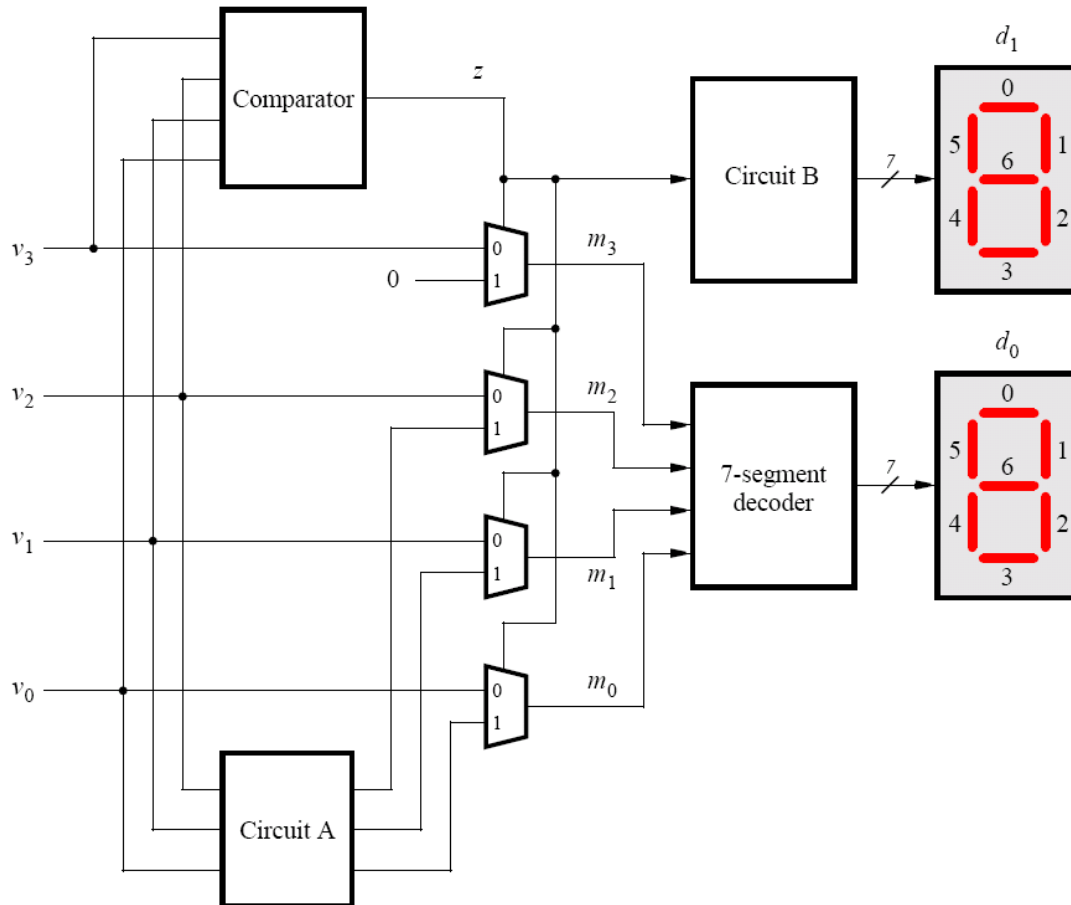

Figure 3 - Partial block scheme of the system that implements the binary-to-decimal conversion circuit.
You need to design a circuit that converts a four-bit binary number $V = v_3 v_2 v_1 v_0$ into its equivalent two-digit decimal number $D = d_1 d_0$. Table 3 shows the required output values. A partial design of this circuit is given in Figure 3. It includes a comparator that checks when the value of V is larger than 9, and uses its output to control the 7-segment displays. You need to complete the design of this circuit by creating a VHDL entity, which includes the comparator, some
3. **Comment your VHDL code** and **include circuit *B*** in Figure 3 as well as the **7-segment decoder**. Here the idea is to have a separate entity for the BCD converter and to reuse the previous VHDL exercises for the upper level architecture. Change the inputs and outputs of your code in such a way that switches **SW3-0** on the DE1 board are used to represent the binary number *V*. Moreover, use the displays **HEX1** and **HEX0** to show the values of the decimal digits *d1* and *d0*. Make sure you include the required pin assignments for the DE1 board in the project.